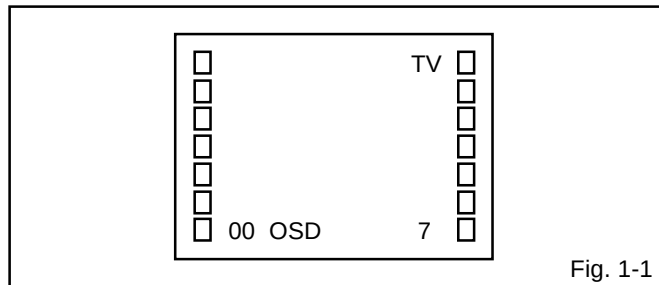

Fig. 1-1
2. Press the VOL. DOWN button on the set and the Channel button **(9)** on the remote control for more than 2 seconds to appear the adjustment mode on the screen as shown in **Fig. 1-1**.
5. Activate the adjustment mode display of **Fig. 1-1** and press the channel button **(02)** on the remote control to select "CUT OFF".